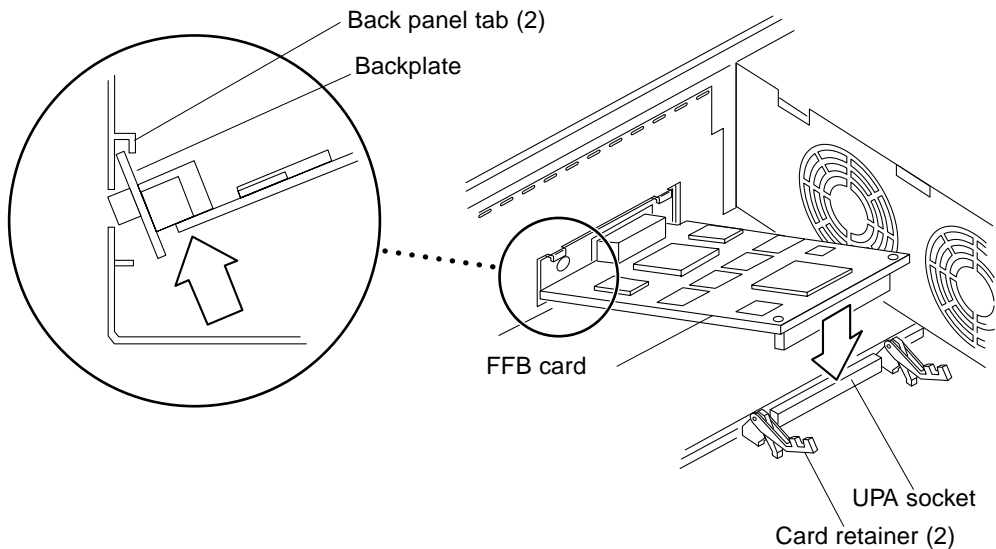

FIGURE 10-18 Replacing the FFB Card
1. Verify that both card retainers are pushed back (FIGURE 10-18).